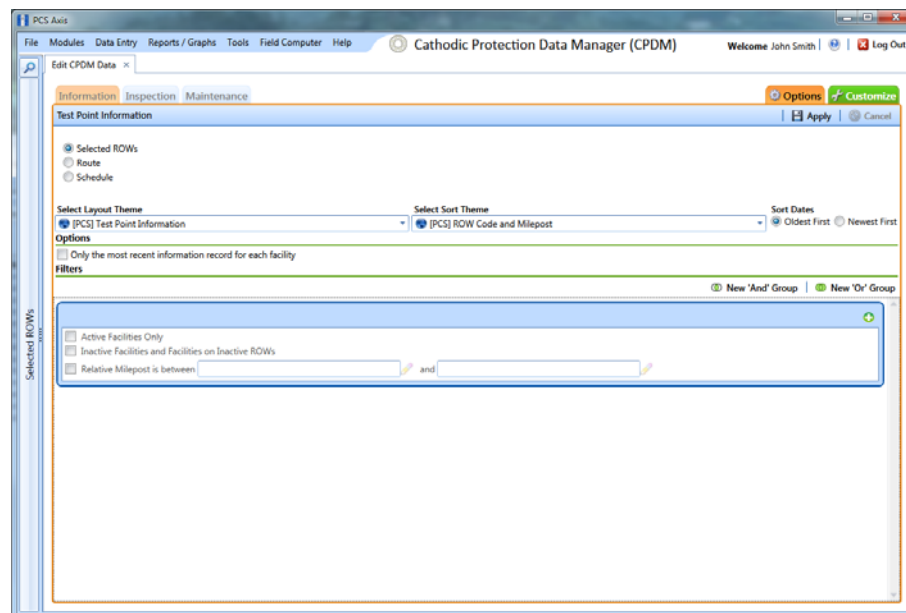

Figure 6-34. Options/Information Grid
- 3 Click the **Options** tab **Options** to open the *Options* page (Figure 6-34).